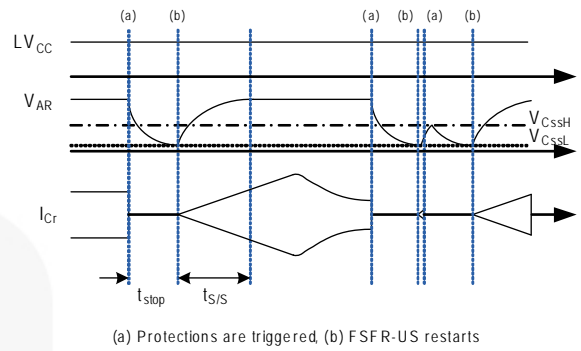

**Figure 20. Internal Block of AR Pin**
**4. Self Auto-Restart:** The FSFR-XS series can restart automatically even though any built-in protections are triggered with external supply voltage. As can be seen in Figure 20 and Figure 21, once any protections are triggered, the M1 switch turns on and the V-I converter is disabled.  $C_{SS}$  starts to discharge until  $V_{C_{SS}}$  across  $C_{SS}$  drops to  $V_{C_{SSL}}$ . Then, all protections are reset, M1 turns off, and the V-I converter resumes at the same time. The FSFR-XS starts switching again with soft-start. If the protections occur while  $V_{C_{SS}}$  is under  $V_{C_{SSL}}$  and  $V_{C_{SSH}}$  level, the switching is terminated immediately,  $V_{C_{SS}}$  continues to increase until reaching  $V_{C_{SSH}}$ , then  $C_{SS}$  is discharged by M1.